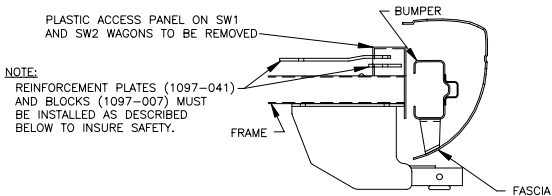

FIGURE 1
4. POSITION HITCH AS FAR REARWARD AS POSSIBLE ON THE INBOARD SIDE OF EACH FRAME, SEE FIGURE 1.
7. ON PASSENGER'S SIDE, POSITION REINFORCEMENT PLATE (1097-041) AND BLOCK (1097-007), AS SHOWN IN FIGURE 1. OVER DRILLED HOLE. THE REINFORCEMENT PLATE AND BLOCK SHOULD LINE UP WITH THE EDGE OF THE TRUNK PAN.